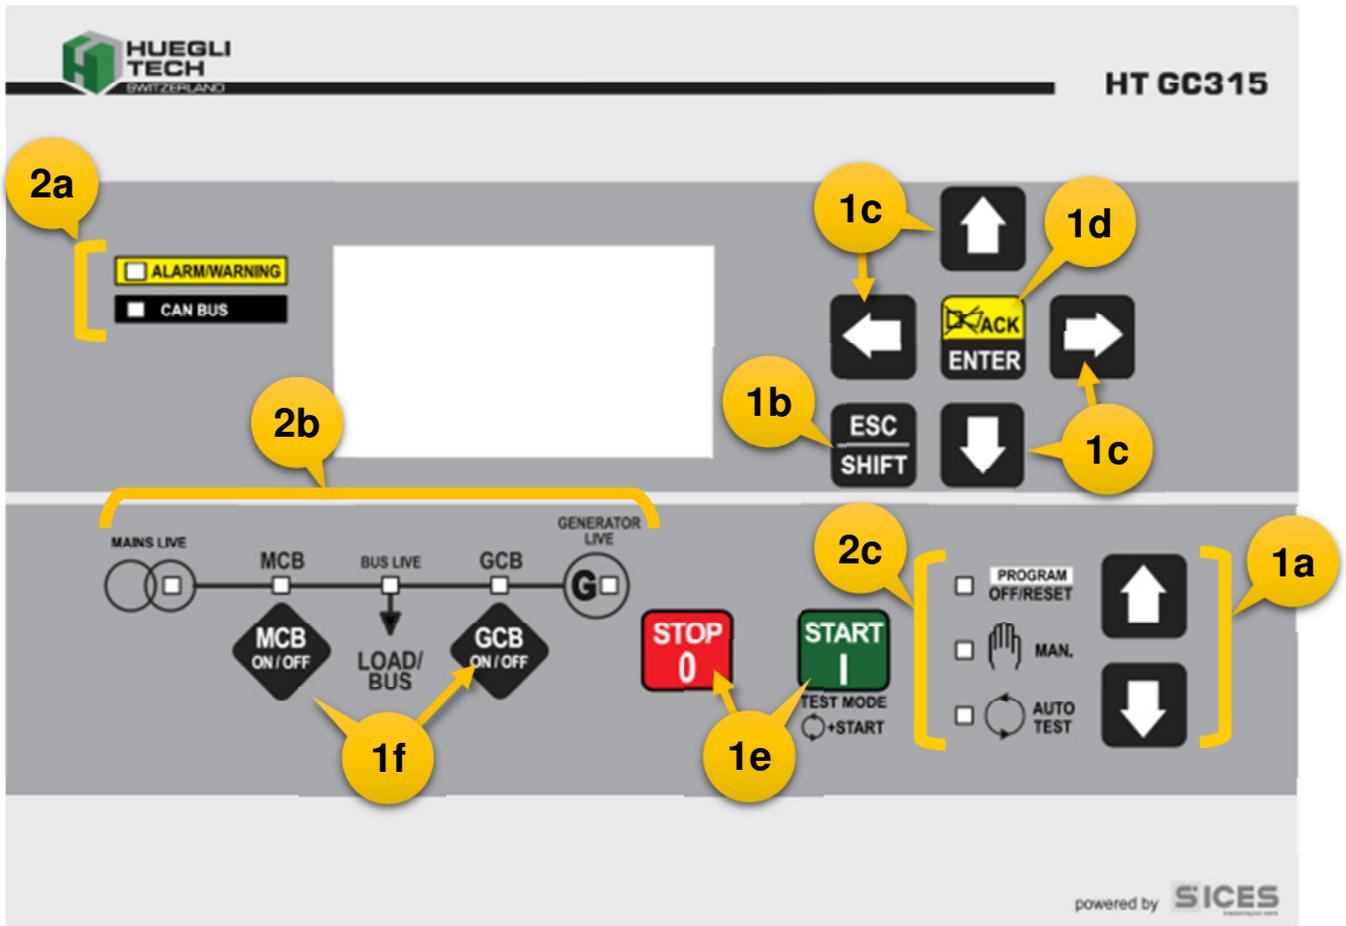

Fig. 1 - Front Panel GC315
4.2 Selector (ref. to fig. 1)
4.3 Indicators (ref. to fig. 1)